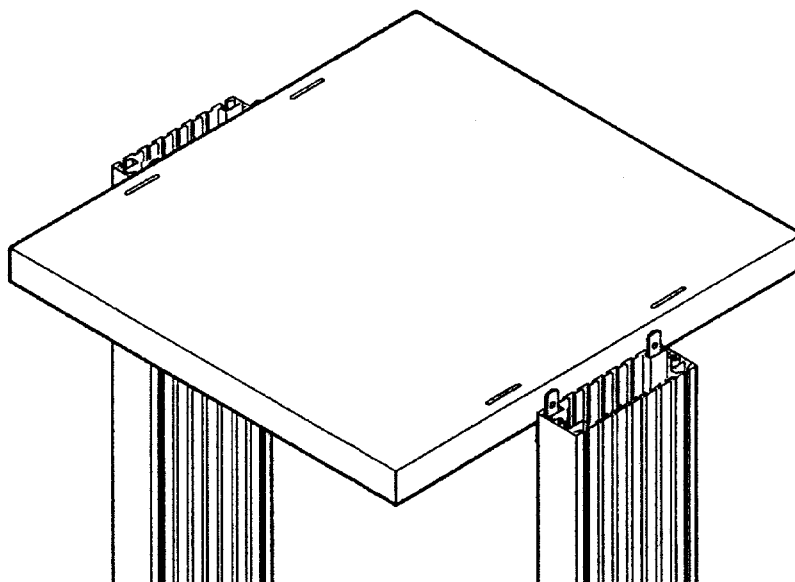

Figure 11: Aligning the Top Shelf
2. Position the top shelf horizontally between the leg assemblies, as shown in Figure 11. Position the shelf so that the Tektronix logo is facing the front of the cart.